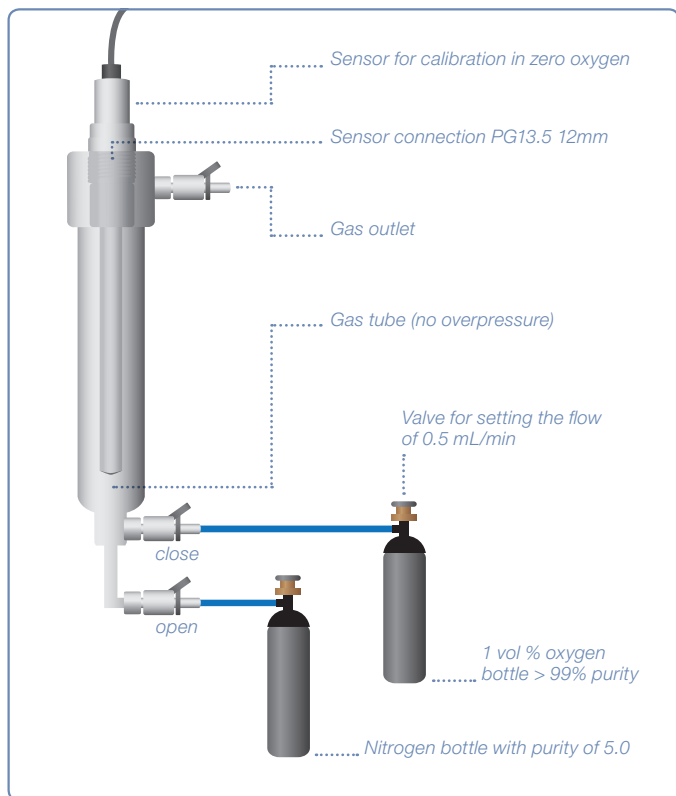

Fig. 14: Zero point calibration setup
- 9) Immerse the sensor into an oxygen-free environment (Figure 14) for e.g. nitrogen gas with min. purity of 5.0 and nitrogen flow rate: 0.5 mL/min (no overpressure). Let the system equilibrate and ensure stable conditions for at least three minutes.